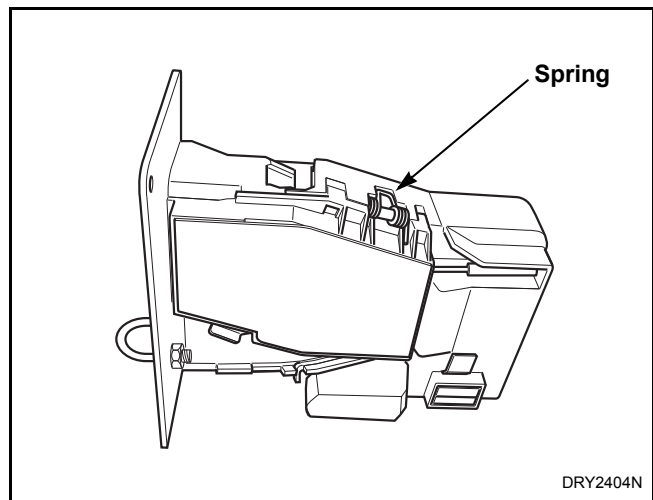

Figure 26
**Coin Drops with New-Style Spring (refer to Figure 26):**